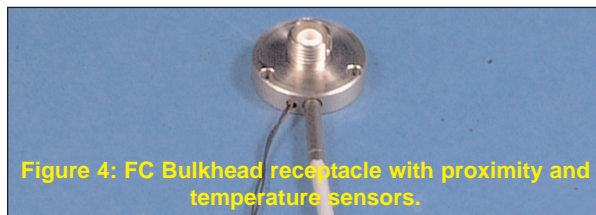

Figure 4: FC Bulkhead receptacle with proximity and temperature sensors.
- Low power shutters installed in between FC receptacles involving metal beam blocker, no heat-dump - See Figure 4